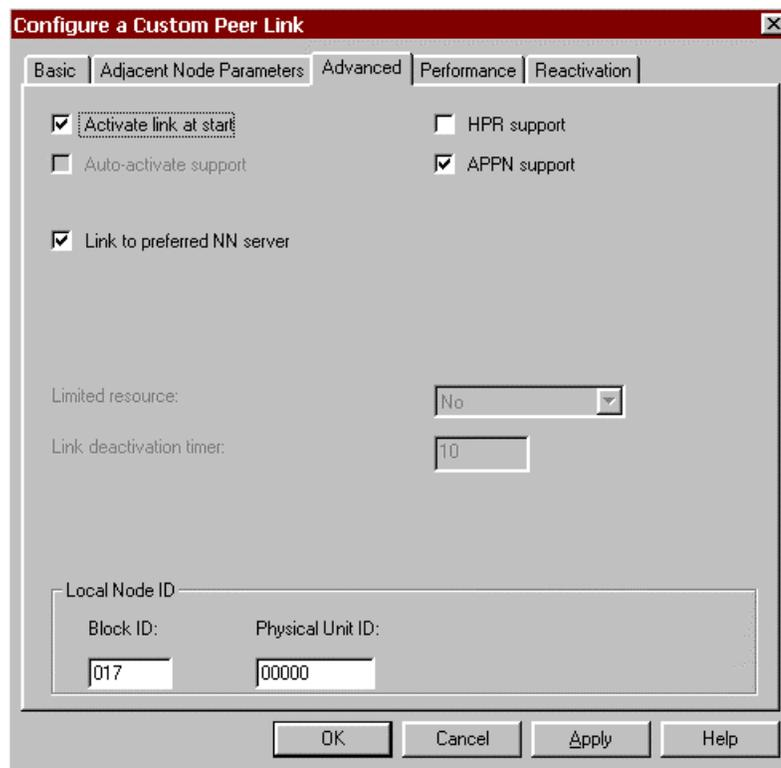

Figure 10-28. Configure a Custom Peer Link
- **Adjacent CP name:** Identifies the Control Point (CP) name of the host. If this field is entered the name must match that defined on the host or a connection will not be established. Leave the field blank to avoid checking.
4. Click the **Advanced** tab (Figure 10-28):